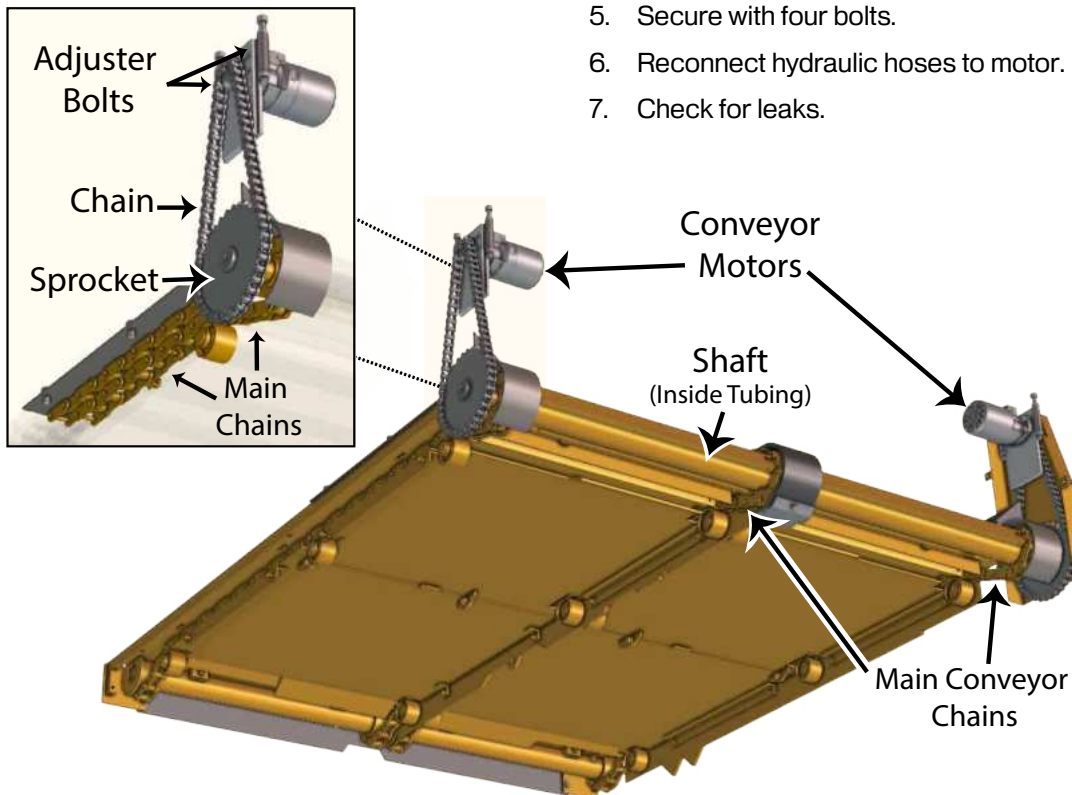

Figure 5-32. Conveyor Components
2. Remove conveyor chain cover. **(Figure 5-32)**
2. Remove four bolts holding hydraulic motor to slide mount. **(Figure 5-32)**